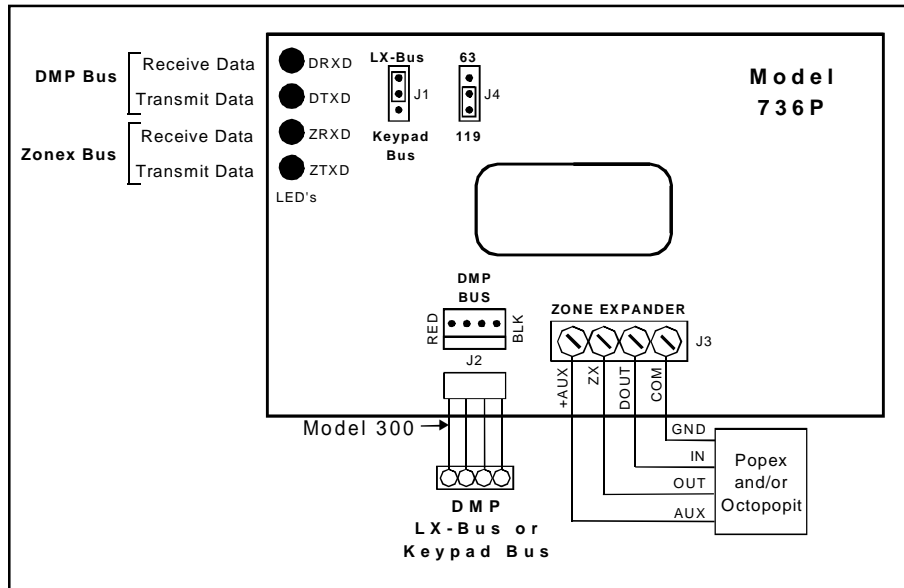

Figure 1: 736P Wiring
When connecting to the Keypad bus, place the J1 jumper across the two bottom pins marked **KEYPAD BUS**. When connecting to the LX-Bus™, place the J1 jumper across the two top pins marked **LX-BUS**. See Figure 1.
For connection to a Keypad bus, connect the provided four wire harness (Model 300) from the **DMP BUS** header (J2) to the Command Processor™ panel terminals marked Red (7), Yellow (8), Green (9), and Black (10). For connection to the LX-Bus™, connect the provided four wire harness (Model 300) from the **DMP BUS** header (J2) to the four wires of the DMP panel LX-Bus™. See Figure 1.
Connect the Radionics™ Popex and Octopopit modules to the **ZONE EXPANDER** connector (J3) of the 736P based on Table 2 and Figure 1.
This jumper selects the type of Radionics™ Zonex Bus that connects to the 736P module. To select for a 63 point (horizontal or vertical) bus, place the J4 jumper across the two top pins marked **63**. To select the expanded (119) point bus, place the J4 jumper across the two bottom pins marked **119**. See Figure 1.